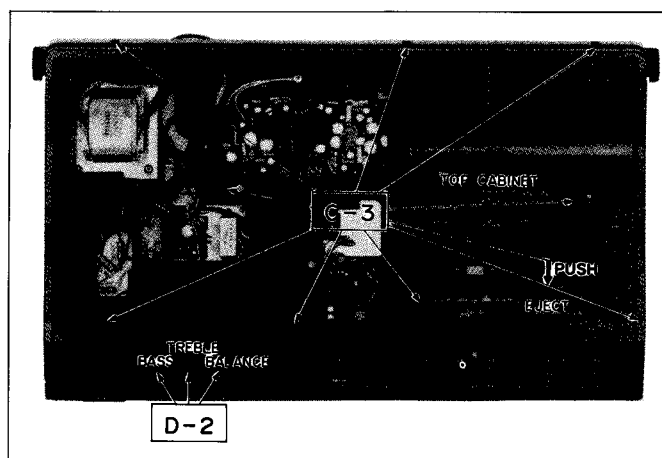

Figure 3-4
3. Push the EJECT button and remove nine screws retaining the top cabinet. (Fig. 3-4)
(Refer to Figures 3-4, 4-1, 4-2 and 4-3)
2. Remove three knobs (BASS/TREBLE/BALANCE). (Fig. 3-4)